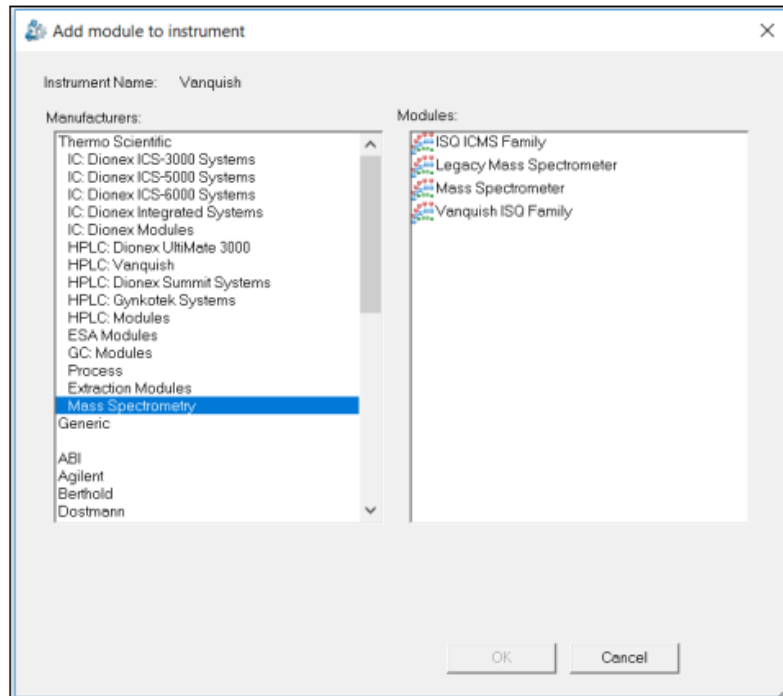

Figure 63: Location of ISQ EC or ISQ EM instrument module
- 4) Once the front-end LC or IC is configured select “Add module to instrument” as shown in Figure 63.